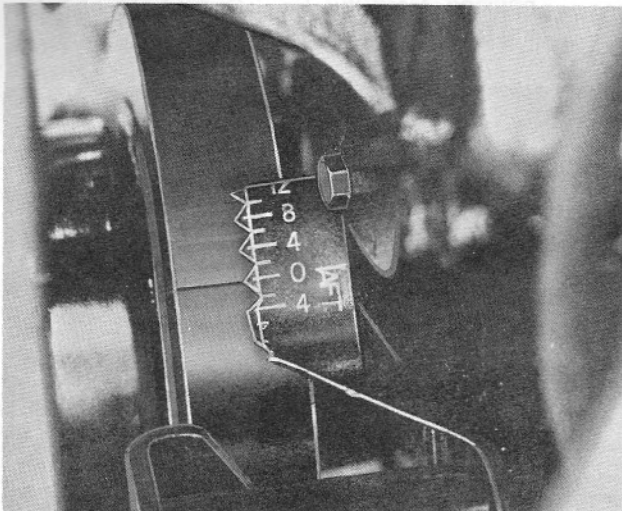

Figure 20
11. Add oil. Start engine, check for leaks. Note: If the engine has been rotated after the distributor was removed, it will be necessary to crank the engine until the saw slot in the harmonic balancer indexes with the zero timing mark on the engine front cover (Figure 20). If both valves of the No. 1 cylinder (first cylinder on the left hand side of the engine) are closed, the piston will be on top dead center (TDC) of the compression stroke, and the distributor can be installed with the rotor pointing to the No. 1 cylinder spark plug wire terminal in the distributor cap when the housing is seated in the block. To determine whether or not the No. 1 cylinder is on TDC of the compression stroke, remove the No. 1 spark plug from the cylinder head and place the thumb firmly over the spark plug hole. Now, crank the engine over until the timing marks on the harmonic balancer and engine front cover are properly aligned. If the No. 1 cylinder is in the firing position, TDC of the compression stroke, the cylinder pressure (approximately 130 PSI) will be readily noticeable.